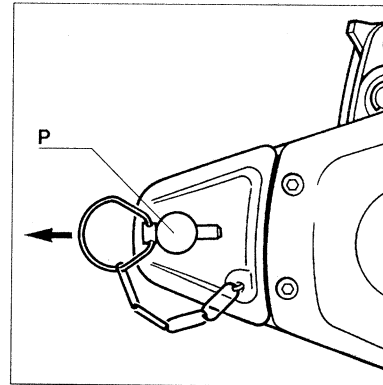

Fig. 6 - TU-32. Anchor locking pin in unlocked position for removing the anchor pin.
- 1 - Remove the anchor locking pin (see Fig. 6) and withdraw the anchor pin (P).